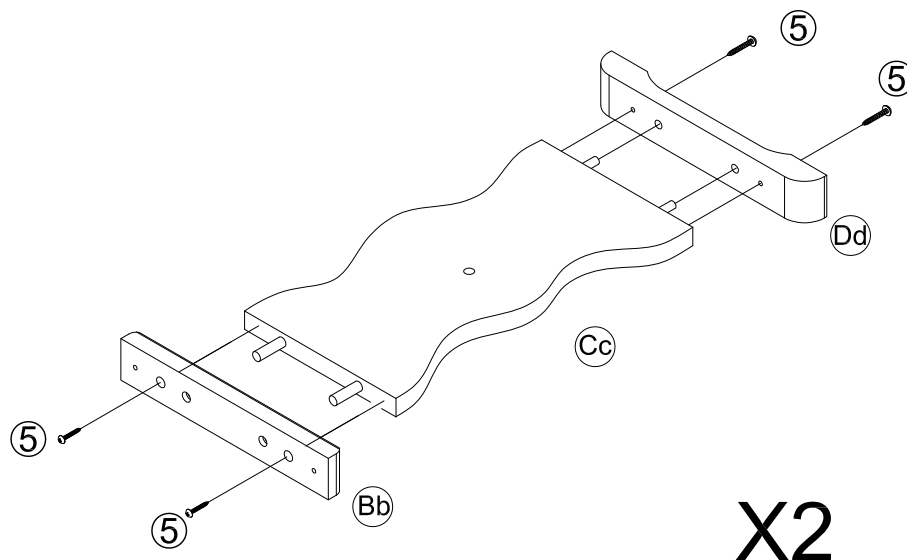

FIGURE 2
- 2.1 ATTACH SEAT BASE #Dd TO LEG #Cc THROUGH FITTING DOWELS LOCATED AT LOWER END OF LEG #Cc INTO HOLES LOCATED ON UPPER EDGE OF BASE #Dd USING PRE-DRILLED HOLES AS GUIDE, SECURE CONNECTION WITH (02) SCREWS (5). DRIVEN WITH PHILLIPS HEAD SCREW DRIVER (NOT ATTACHED) AS SHOWN IN FIGURE 2. REPEAT PROCEDURE FOR SECOND LEG #Cc.
- 2.2 ATTACH SEAT SUPPORT #Bb TO LEG #Cc FITTING THE DOWELS LOCATED ON UPPER END OF LEG #Cc INTO HOLES LOCATED ON SUPPORT #Bb. USING PRE-DRILLED HOLES AS GUIDE, SECURE CONNECTION WITH (02) SCREWS (5) DRIVEN WITH PHILLIPS HEAD SCREW DRIVER (NOT ATTACHED). AS SHOWN IN FIGURE 2. REPEAT PROCEDURE FOR SECOND TOP SUPPORT #Bb.